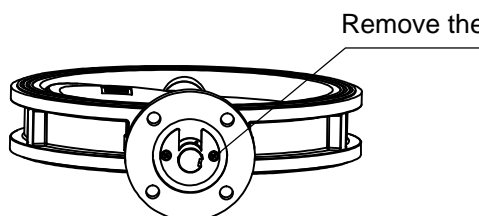

Figure 12
(2) Remove the bolts and circlip (as shown in Figure 12), align the packing gland bolt hole with a pun and strike to rotate the packing gland counter-clockwise to compress the packing (as shown in Figure 13), when there is no leakage, reinstall the parts back to the body.